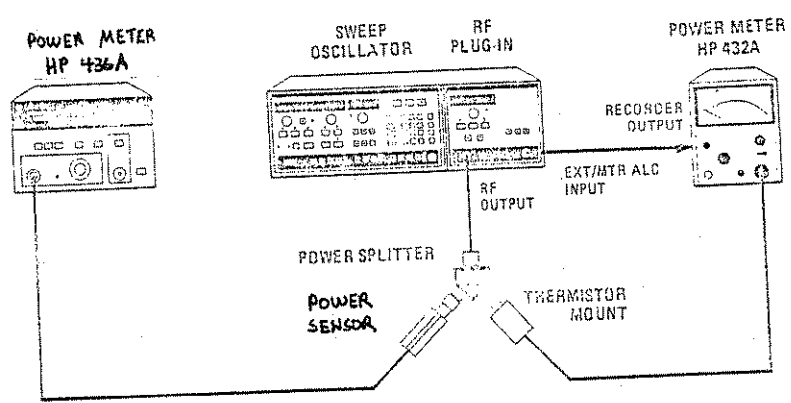

Figure 5-38 Power Meter Leveling Calibration
1. Connect equipment as shown in Figure 5-38. On the 8350A, press [INSTR PRESET CW] and select a frequency at midband. Set the RF power level to -2 dBm, as indicated on the 83592A POWER display. Allow the equipment to warm up for 1 hour.
4. Increase the 83592A power level until the 432A power meter reaches full scale deflection (83592A RF output equals approximately +6 dBm). Adjust A4R9 (PM) until the 436A Power Meter indication is equal to the 83592A POWER display minus the power splitter insertion loss noted in step 1